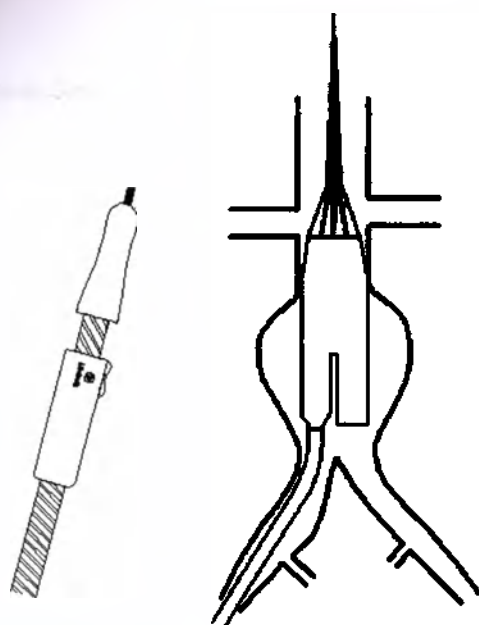

Fig. 6 Deploy the short branch of AAA Stent Graft
- ✧ Slowly deploy the stent graft. Hold the front grip of the delivery system stationary, then rotate the slider grip counterclockwise to slowly deploy the stent graft until the short branch is deployed. (Fig. 6)